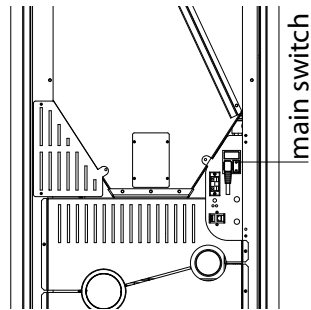

fig. 16 - Main switch
- Make sure that the power cable is connected to the electric socket and another its end is connected to the generator. The main switch located on the back part of the thermostove (fig. 16) must be on (display active);